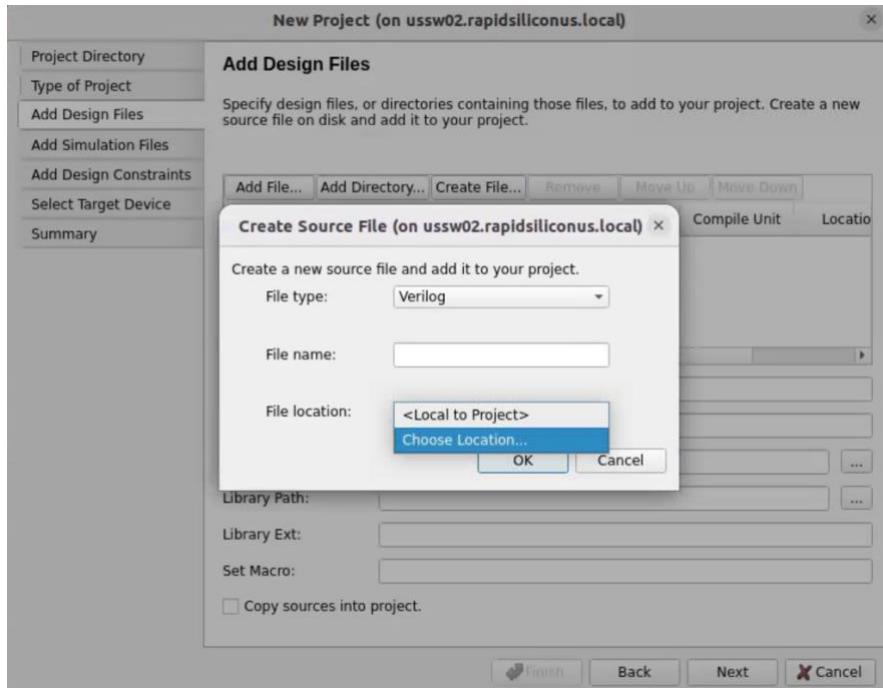

Figure 13. Create a Source File
4. Create a source file with supported file type as shown in **Figure 13**.